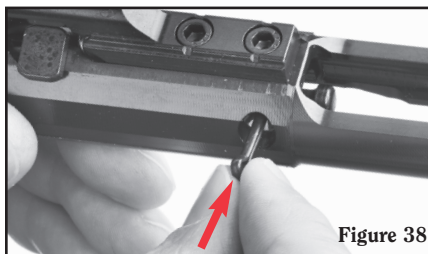

Figure 38
- g. Insert the firing pin retaining pin (Figure 38).